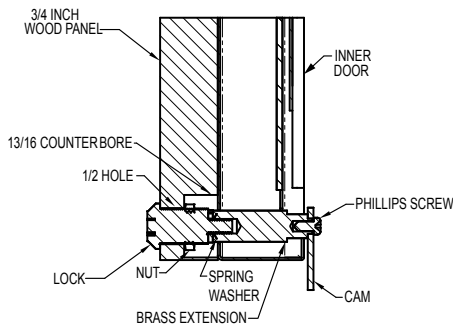

Figure 20
Two (2) lock extensions are provided with the lock. Use the longer extension for  $\frac{3}{4}$ " thick overlay panels and the shorter one for  $\frac{5}{8}$ " thick overlay panels. Assemble the lock extension, cam stop washer, spring washer, and set screw to the lock as shown in Figure 20 and 21.